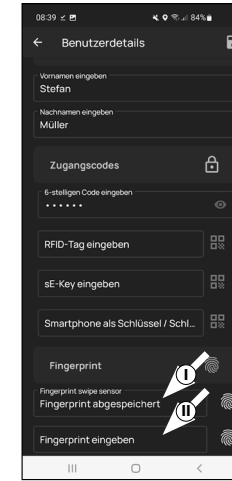

Fig. 16
6 Once a finger has been entered, the entry "Fingerprint saved" (I) appears in the corresponding field (Fig. 16). Below this, there is also a new, empty field for a further fingerprint (II) (Fig. 16).